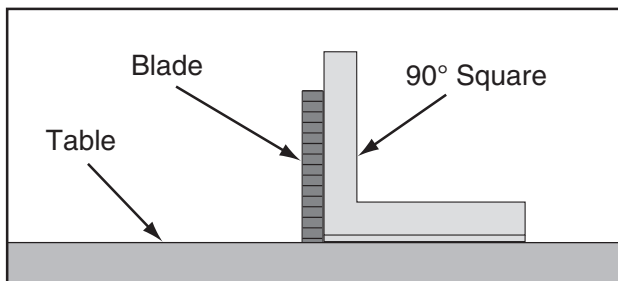

Figure 121. Checking blade at 90°.
3. Place a 90° square against the table and blade so it contacts the blade evenly from bottom to top, as shown in **Figure 121**. Make sure a blade tooth does not obstruct the placement of the square.